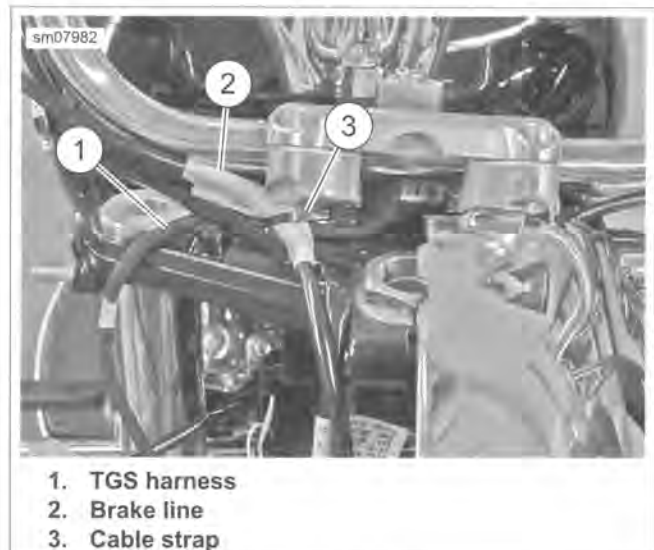
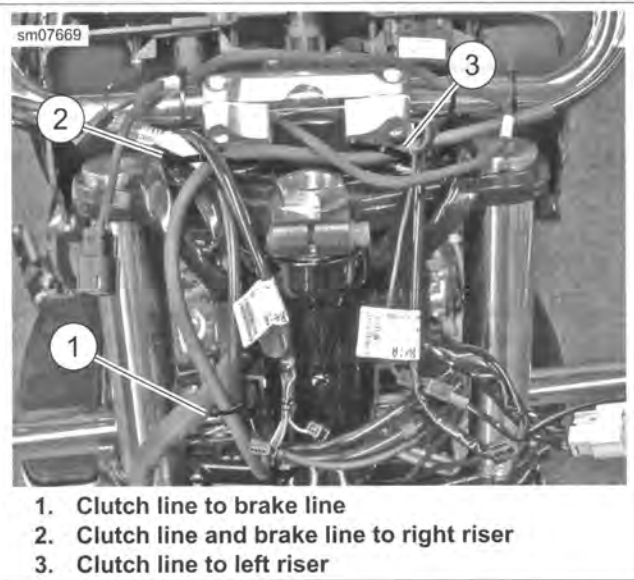

Figure 2-72. Capture Brake Line and TGS harness (FLHR/C)
Figure 2-73. Capture Clutch and Brake Fluid Lines (Fairing Models) (Fairing removed for photo clarity)
4. Hold upper fork bracket down tight against upper dust shield. Tighten pinch screw (1) to 22-26 ft-lbs (29.8-35.2 Nm).
5. Verify that upper fork bracket is evenly positioned on both forks. Tighten upper fork pinch screws (2) to 14-18 ft-lbs (19.0-24.4 Nm).
7. See Figure 2-72 and Figure 2-73. Secure lines and wiring to handlebar risers with **new** cable straps.